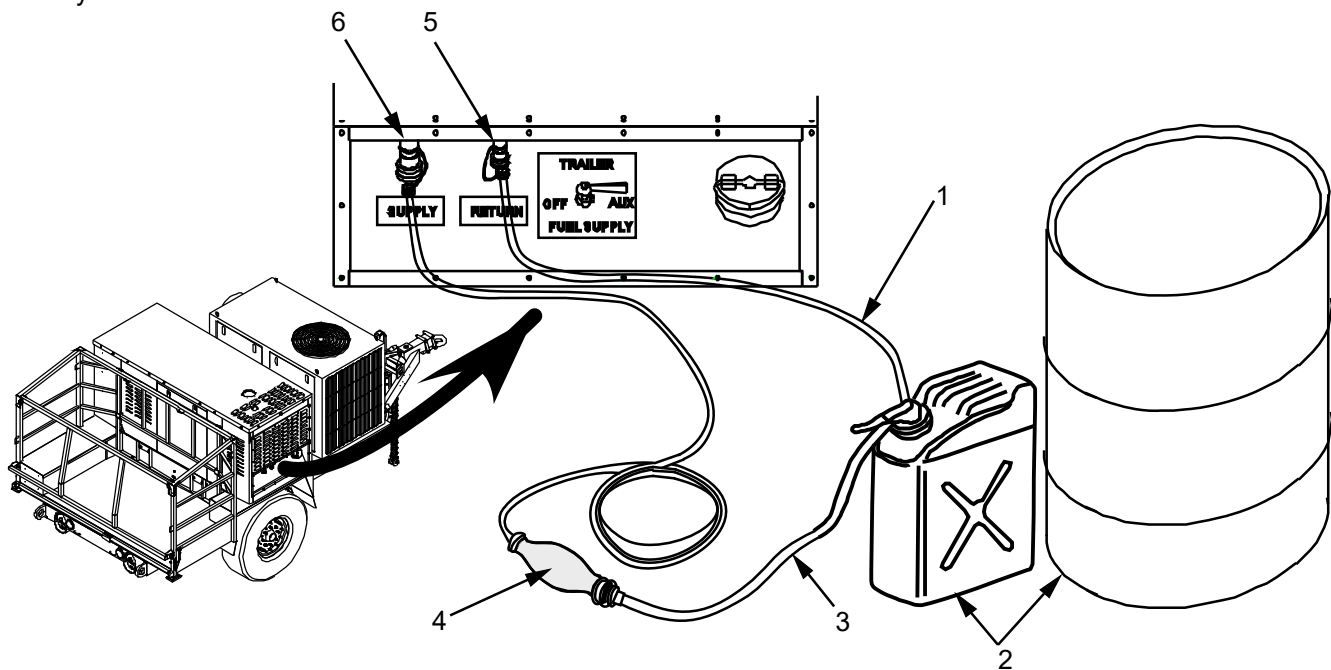

Figure 6. Aux Fuel Lines to External Fuel Supply.
HP-2C/185 trailer comes with one auxiliary fuel return line (Figure 6, Item 1) and one auxiliary fuel supply line (Figure 6, Item 3). The auxiliary fuel supply line has a bulb primer (Figure 6, Item 4) to start fuel moving from the external source.
1. Insert end of auxiliary fuel supply line (Figure 6, Item 3) closest to bulb into auxiliary fuel source (Figure 6, Item 2). Connect opposite end to AUXILIARY FUEL SUPPLY connector (Figure 6, Item 6).
2. Insert end of auxiliary fuel return line (Figure 6, Item 1) into auxiliary fuel source (Figure 6, Item 2). Connect opposite end to AUXILIARY FUEL RETURN connector (Figure 6, Item 5).
4. Prime bulb (Figure 6, Item 4) on auxiliary fuel supply line (Figure 6, Item 3) until resistance is felt. Check for any leaks.